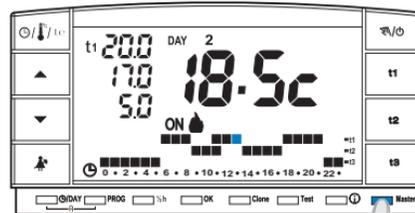

fig. 89
- briefly press the “Master” key; the message **Master** will disappear from the display, the chronothermostat will remaining programme function and the zones assigned to the master will return under the control of their transmitters (example fig. 89).